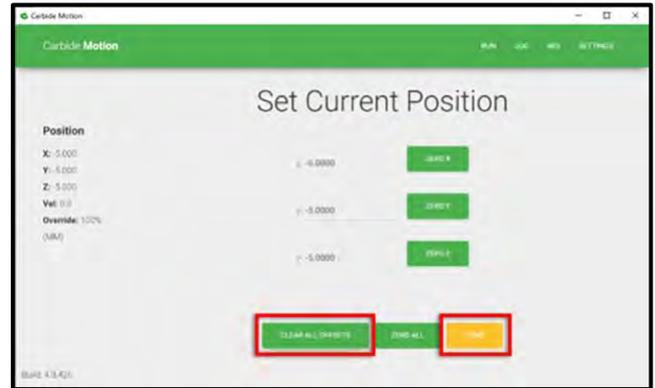

Figure 45
- c. On the Set Current Position screen, click the **Clear All Offsets** button. Then, click **Done**. See *Fig. 45*.